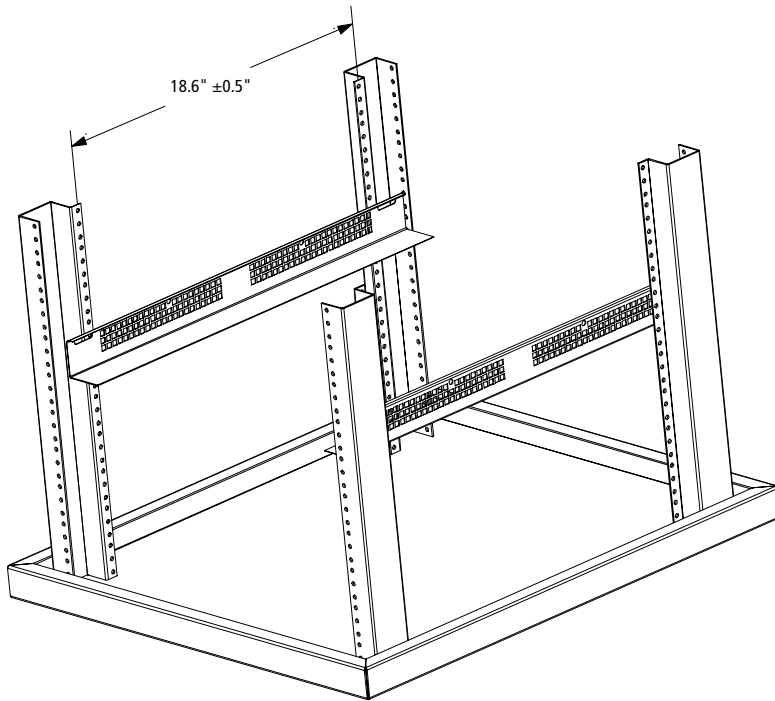

Figure 2 RM-XTR1 Rack Rails
1. Ensure that your rack resembles the rack shown in Figure 2, and has inner holes within the specified dimensions.